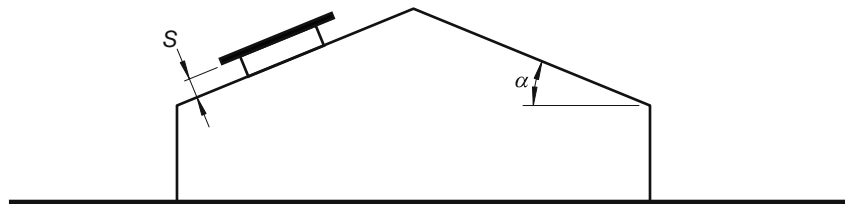
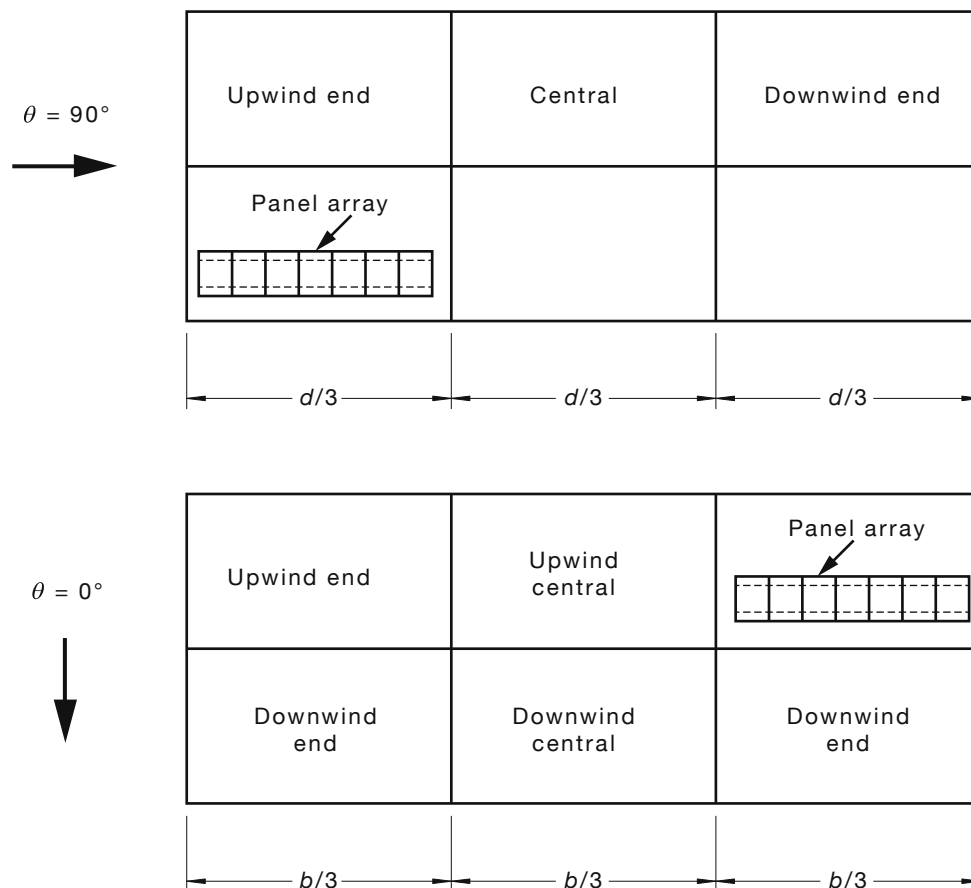

FIGURE D8 PANEL MOUNTED PARALLEL TO ROOF PLANE
FIGURE D9 ROOF ZONES FOR PANEL ARRAY
- (d) Panels with a minimum distance between panel and roof edge of $2s$ where s is the gap between the underside of the panel and the roof surface, as shown in Figure D8 (roof edge includes ridges with pitch $\geq 10^\circ$).
The aerodynamic shape factor (C_{fig}) for calculating net pressures for solar panels satisfying the above conditions, as shown in Figure D8, is given in Table D11. The aerodynamic shape factor (C_{fig}) contains local pressure and area reduction effects for calculating net loads on individual panels installed as part of an array of panels in the areas of the roof identified in Figure D9.